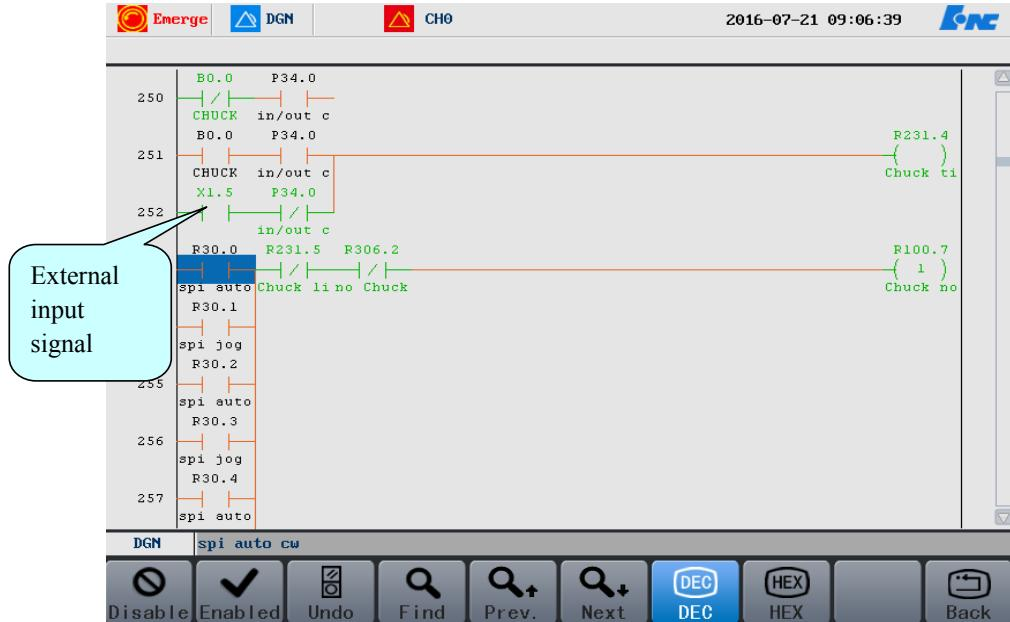

Figure 6.6.3 Locate the final point
6. According to the information in the 497 line as shown in the figure 6.6.3, we can see that the disconnection signal of X2.3 is required for the tool to arrive the point.